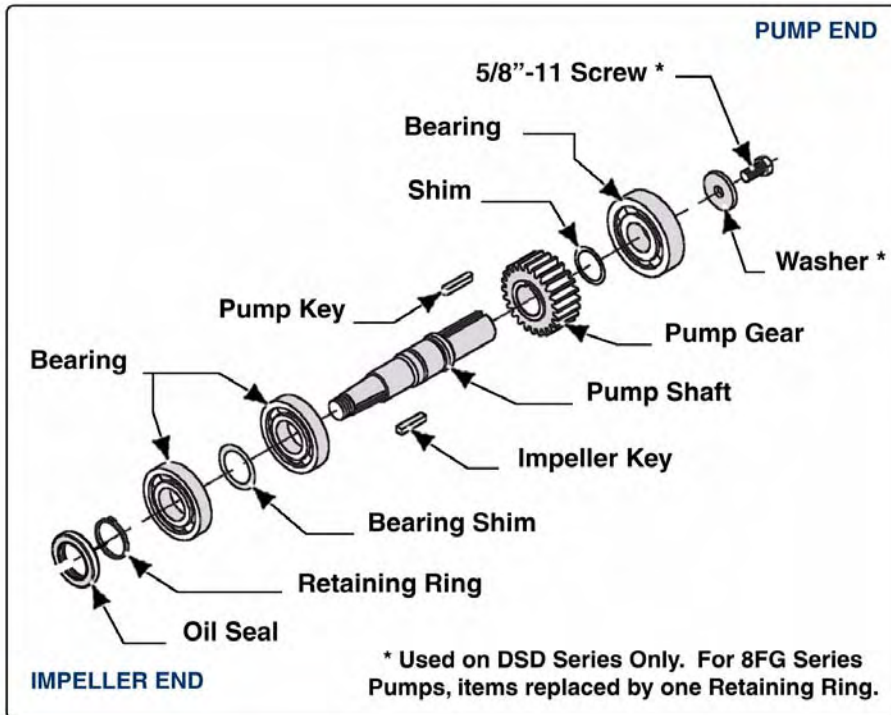

Figure 6-9: Pump Shaft Assembly
7. With the impeller and mechanical seal removed, use a soft mallet to drive the pump shaft from the bearing housing. As the shaft is removed, the retaining ring assists in removing the front and rear bearings (3), bearing shim and pump gear. (See Figure 6-9: "Pump Shaft Assembly" on page 88.)
(See Figure 6-9: "Pump Shaft Assembly" on page 88.)
5. Install a shim (approximately 0.005" / 1.5 mm), provided with the shaft replacement kit, then install the rear bearing onto the shaft. (See Figure 6-9: "Pump Shaft Assembly" on page 88.) Review Step 11. for an understand of the shim placement.